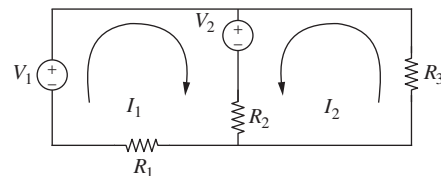

Figure P7.7 Two-loop circuit for problem P7-7.
- 7-7.** A two-loop circuit is configured as shown in Fig. P7.7 with $V_1 = 200$ V, $V_2 = 100$ V, $R_1 = R_2 = R_3 = 75 \Omega$. The voltages V_1 and V_2 satisfy the following system of equations: